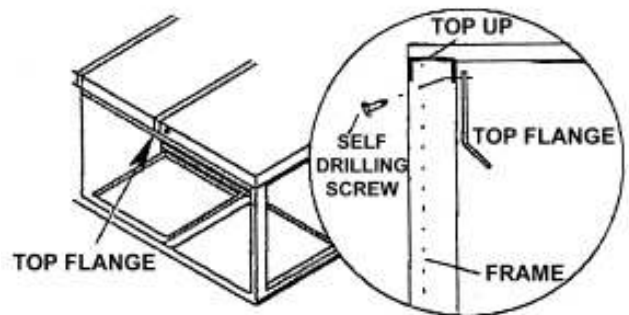

Figure 8 - Installing the top flange
- b. Use the self-drilling screws provided to secure the top flange to the lip. Install the screws from outside the unit. See Figure 8.